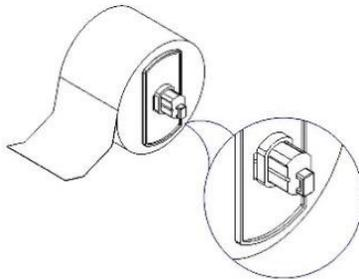

Figure 2.2.4
- 3) Install the paper roll on the paper roll holder, and add a paper guide plate on each side of the paper roll (see Figure 2.2.4);